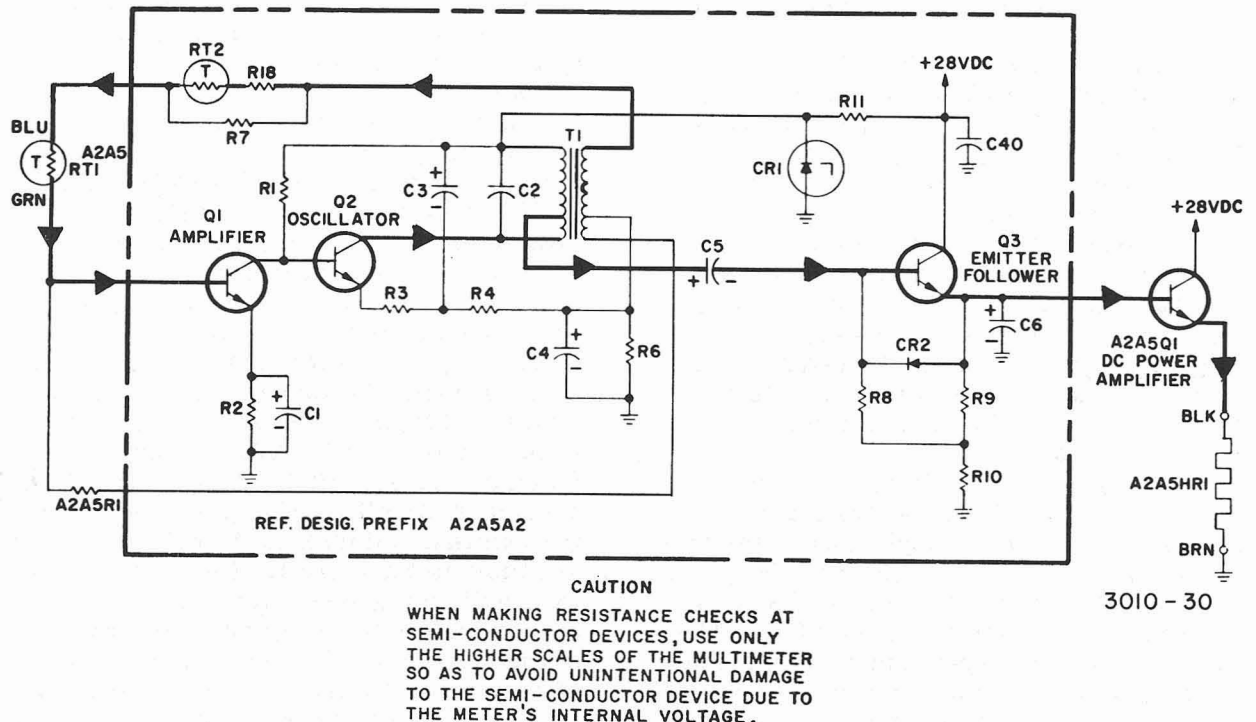

Figure 3-28. Oven Control, Simplified Schematic Diagram
z. OVEN CONTROL. - The oven control portion of A2A5A2 (figure 3-28) consists of feedback amplifier Q1, oscillator Q2, emitter follower Q3, dc power amplifier A2A5Q1, and oven heater A2A5HR1. These circuits, which form a part of frequency standard electronic assembly A2A5, maintain the 5-MHz crystal oven at a constant temperature of 85°C (185°F). The oven control circuit is used during all modes of operation. The following paragraphs describe the operation of the circuits in detail.